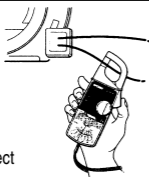

Fig. 2
- (1) Set the range switch to the highest 300 Aac range position.
- (2) Press the trigger to open the transformer jaws and clamp onto one conductor only (Fig.2). Read the current directly on the scale. It is recommended that the conductor be placed at the center of the closed jaws for maximum accuracy.
- (3) When the reading is lower than 150 A, set the range switch to the next lower range position. For maximum accuracy select the lowest range position. For maximum accuracy select the lowest range possible without overranging the meter.